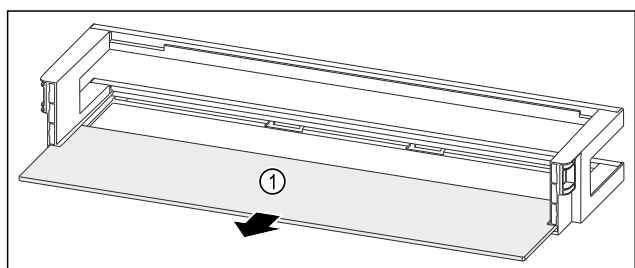

Fig. 167 Door rack with shelf
- ▶ Remove the shelf Fig. 167 (1).